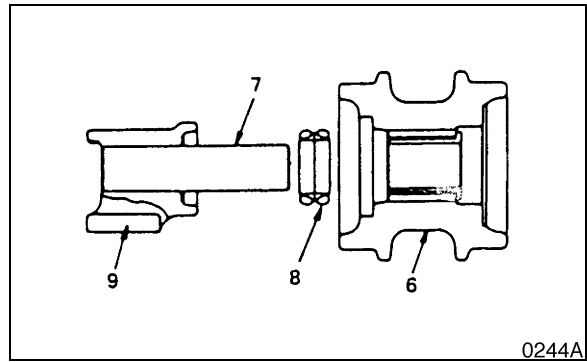

Figure 44
4. Separate group seal (8, Figure 44) from the roller and bracket (9).